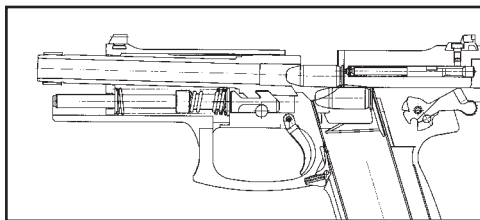

Figure 8
F. **Feeding** - (see Figure 8) - The compressed recoil spring drives the slide forward. If the magazine is empty, the magazine follower will lift the slide release to a point where it will stop the forward progress of the slide. If the magazine is not empty, the face of the slide will make contact with the top round in the magazine. The round will be driven from the magazine toward the chamber. The tip of the projectile is guided into the chamber by the magazine lips until the round clears the magazine completely. At that moment the claw of the extractor snaps onto the rim of the cartridge case as it becomes parallel with the bore.